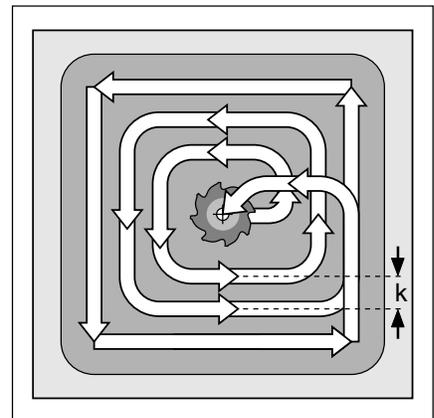

Fig. 8.10: Tool path for roughing-out
- The cutter subsequently follows a spiral path (shown in Fig. 8.10) at the programmed feed rate. The stepover factor is determined by the value k (see Cycle 4, RECTANGULAR POCKET MILLING: Calculations).